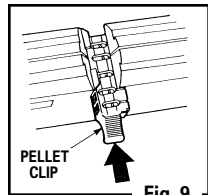

Fig. 9
- Replace the pellet clip, making sure to line up one of the pellet chambers with the barrel chamber (Fig. 9). IMPORTANT: If the pellet clip is not lined up properly, you will not be able to push the bolt forward.